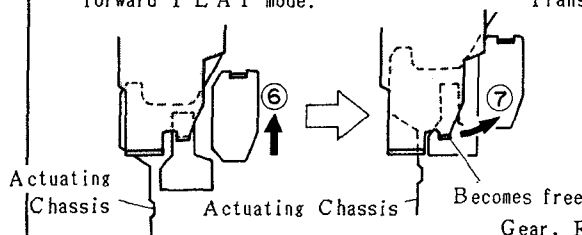

Fig. 22-4
- 3) At the same time of the action stated in Step 2) above, the Actuating Chassis Ass'y sets the Link, Take-up Converter free (See Fig. 22-4). That is the Link, Take-up Converter is moved in the direction of arrow ⑦ by a tension of the T-spring, Take-up, activating the interlinked Take-up Ass'y in the direction of arrow ⑧ to engage with the Gear, Connection. Then, the Gear, Reel R starts rotating via the Gear Ass'y, Transmission to set up the forward PLAY mode.